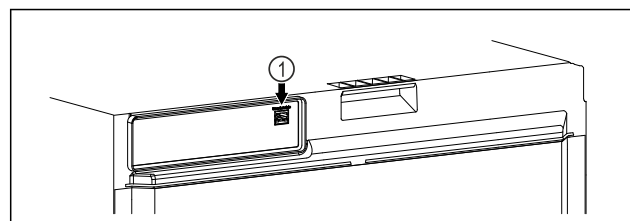

Fig. 115
- ❑ SmartModule Fig. 115 (1) has been inserted.